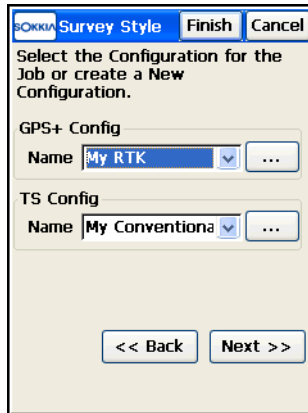

Figure 4-3. Select Survey Configuration
4. On the *Survey Style* screen (Figure 4-3 on page 4-3), select the Survey Configuration, for both the GPS+ and TS and tap **Next**. A Survey Configuration is a set of parameters that describe